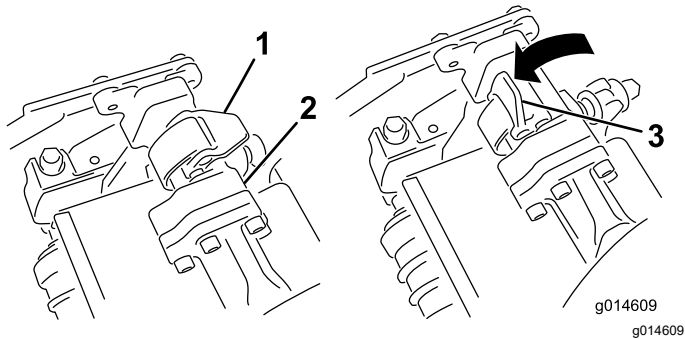
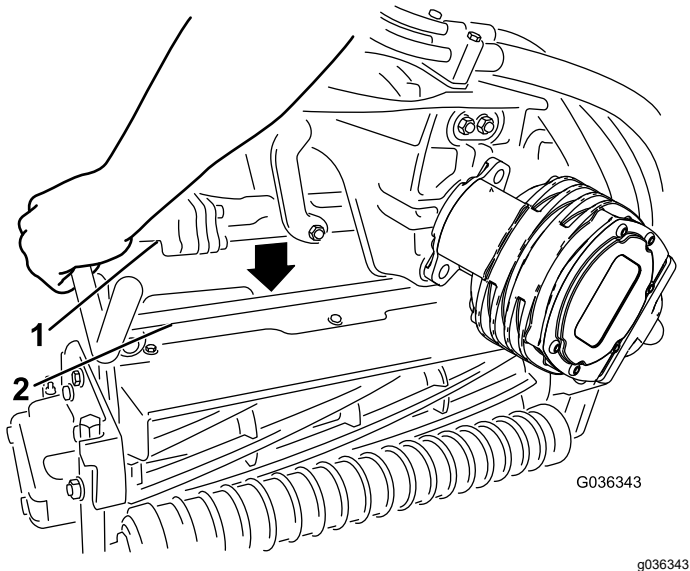

Figure 69
Figure 70
4. Open the latches on the suspension-arm bar (Figure 69) and push the suspension arm down so that the bar fits over both pitch arms on the cutting unit and ensure that the latches go underneath the cutting-unit crossbar (Figure 70).
5. Close the latches down and around the cutting-unit bar and lock them in place (Figure 69).
6. Open the latches on the suspension-arm bar of the cutting unit you are removing (Figure 69).